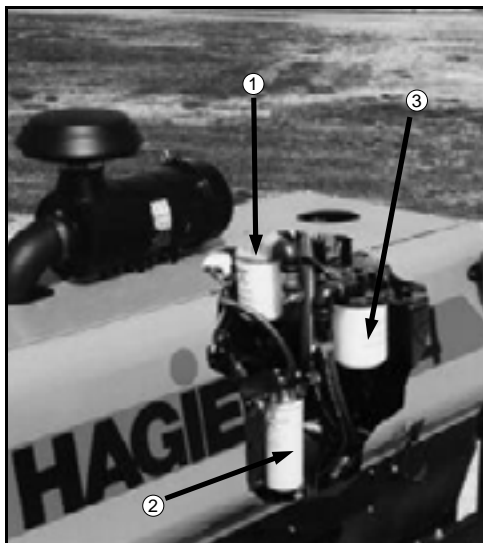

FIG 7.18
**SUCTION FILTER** – Remove and install a new 10 Micron rated suction filter (fig. 7.18, item 3) at the end of the first 50 hours of use; subsequently, replace the filter every 250 hours, or once a year, whichever comes first.
**CHARGE PRESSURE FILTER** – Remove and install a new 4 Micron rated charge pressure filter (fig. 7.18, item 2) at the end of the first 50 hours of use; subsequently, replace the filter every 250 hours, or once a year, whichever comes first.
**RETURN FILTER** – Remove and install a new 10 Micron rated return filter (fig. 7.18, item 1) at the end of the first 50 hours of use; subsequently, replace the filter every 250 hours, or once a year, whichever comes first.